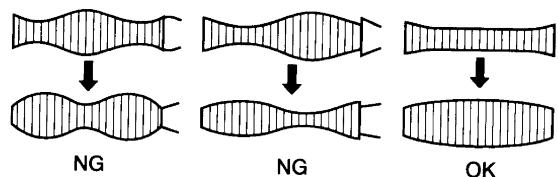

Fig. 2-1-83 Abnormal waveform variation
7. If the envelope varies like NG figures as shown in Fig. 2-1-83, perform the adjustment again.